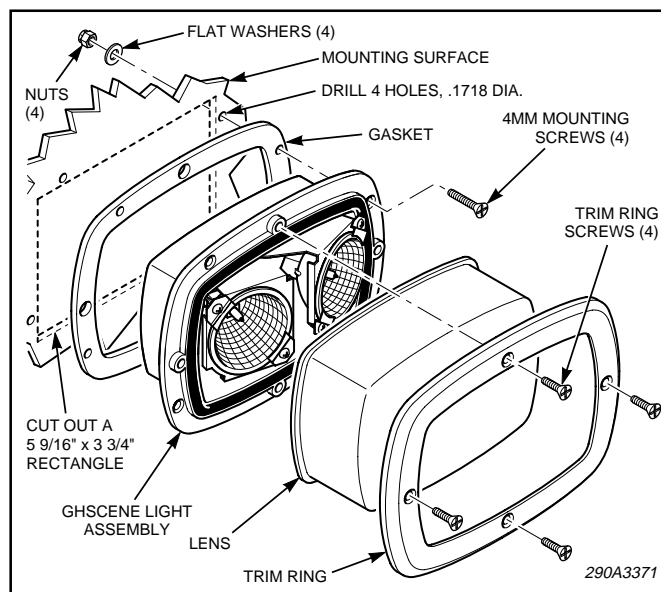

Figure 1.
3. Secure the light assembly to the mounting surface using the supplied hardware as shown in figure 1.